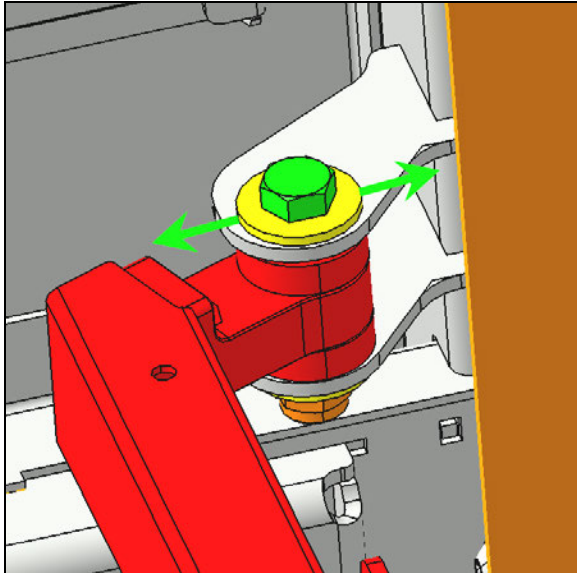

FIGURE 51
8. If the longitudinal position is out of tolerance, adjust using the adjustment provided on the lower attachment point of the arm on the vehicle chassis (FIGURE 51).